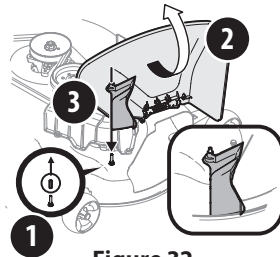

Figure 32
- Remove the deck pin rubber protective cap, (1) in Figure 32.
- Raise the chute deflector (2) on the deck and hold it while you install the chute adapter (731-10133) (3), onto the deck as shown in Figure 32.